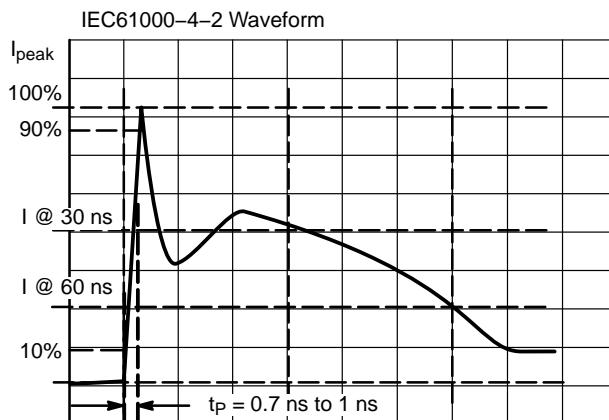

Figure 9. IEC61000-4-2 Spec
1. For test procedure see Figures 9 and 10 and application note AND8307/D.